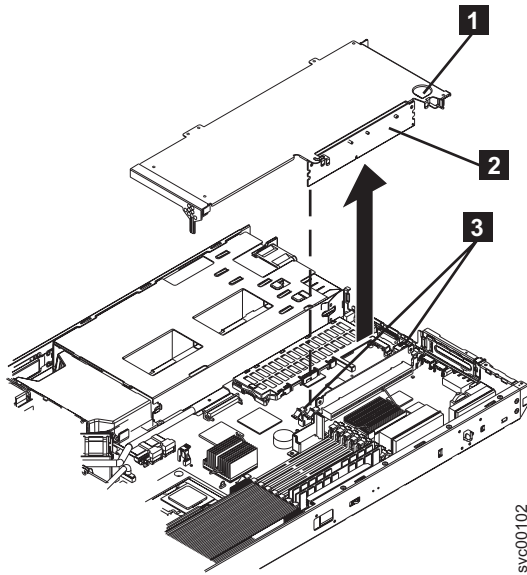

Figure 182. SAN Volume Controller 2145-8F2 or SAN Volume Controller 2145-8F4 slot 2 adapter
- a. Open the retaining clips on both sides of the slot 2 riser card (**2** in Figure 182 on page 168) by pushing the clips down and away from the riser card until the clips are no longer attached to the riser card.